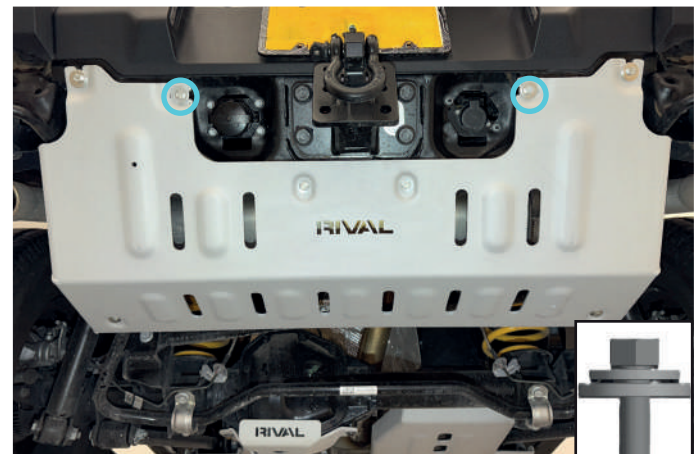

Fig. 4
4. Install hardware to remaining mounting points for the muffler skid plate (item 1) using M8x1x25 bolts, M8 and M10 washers (items A,B,C) as shown in fig.4